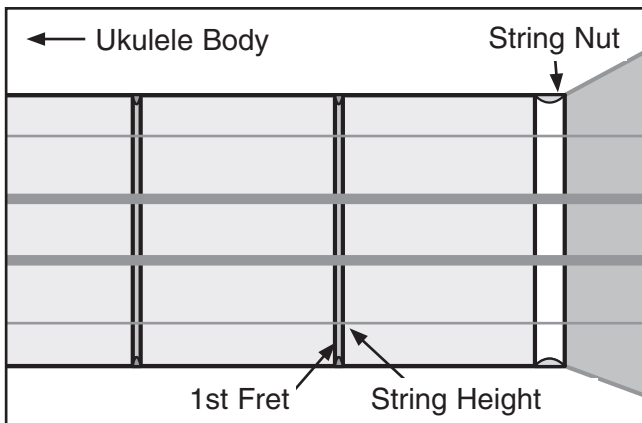

Figure 34. Correct 1st fret string heights.
1. Using a dime as a gauge (approximately $\frac{1}{16}$ "), measure the string heights at the 1st fret (see **Figure 34**).